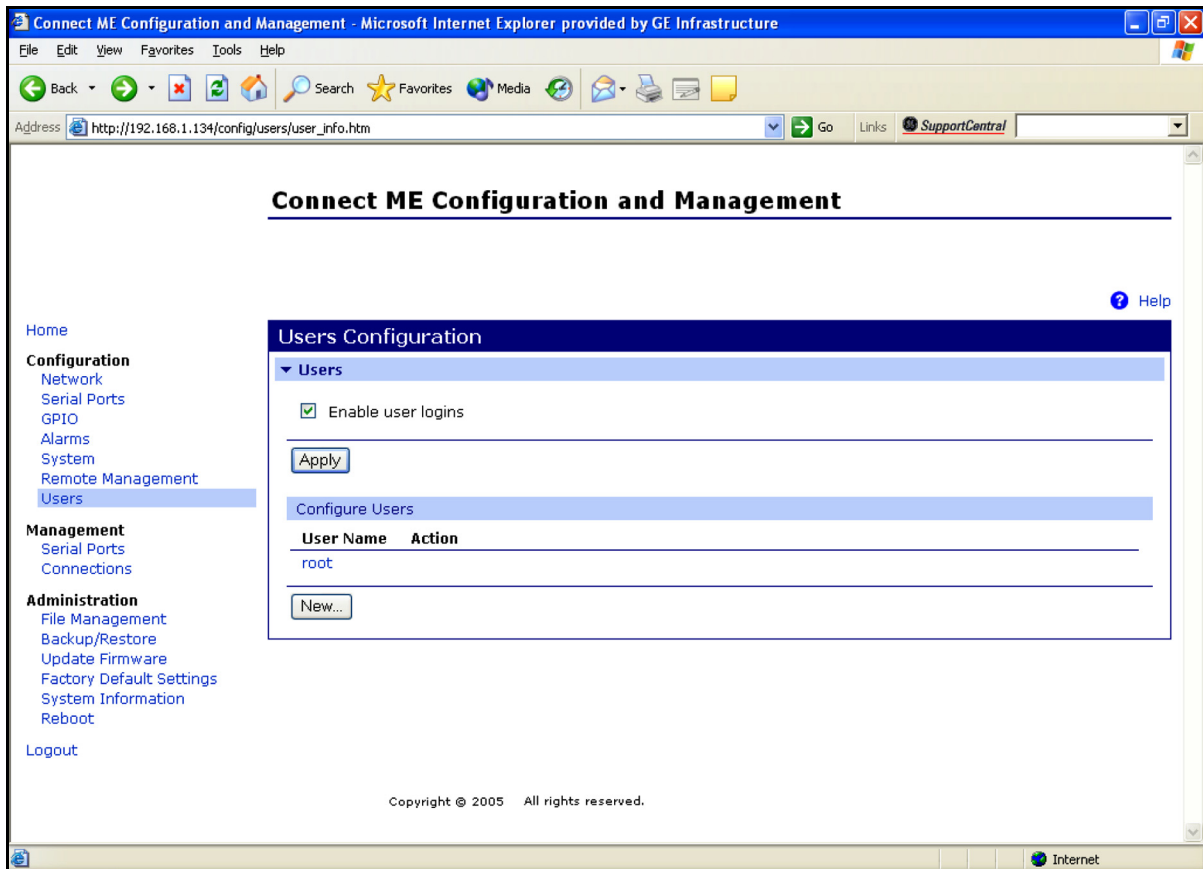

Figure 25: User's Configuration Menu
3. Click on **Login**. Figure 25 appears.